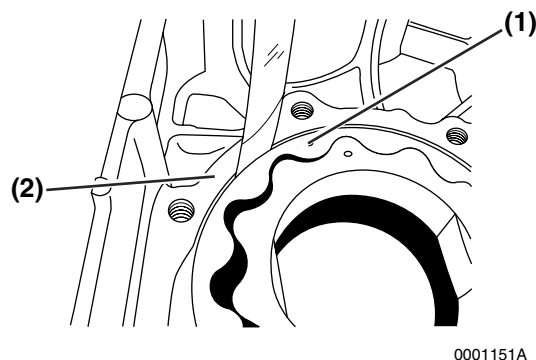

Figure 9-8
- Determine the outside clearance of the outer rotor. Insert a feeler gauge between the outer rotor **(Figure 9-8, (1))** and the gear case oil pump cavity **(Figure 9-8, (2))**.